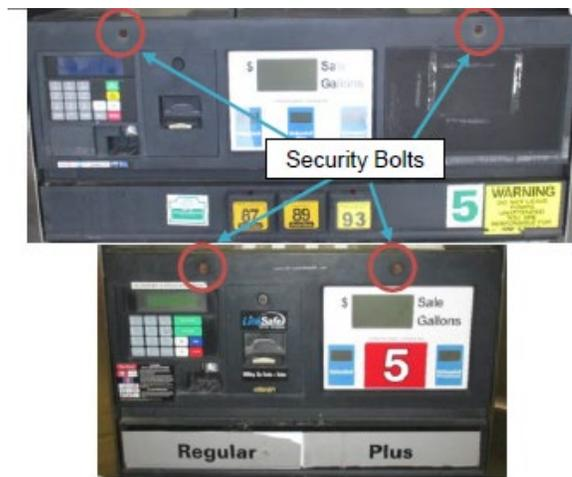

Figure 2
2) Use a Wayne Security Key to unscrew the two security bolts (Figure 2) at the top left and top right of the electronics head bezel.